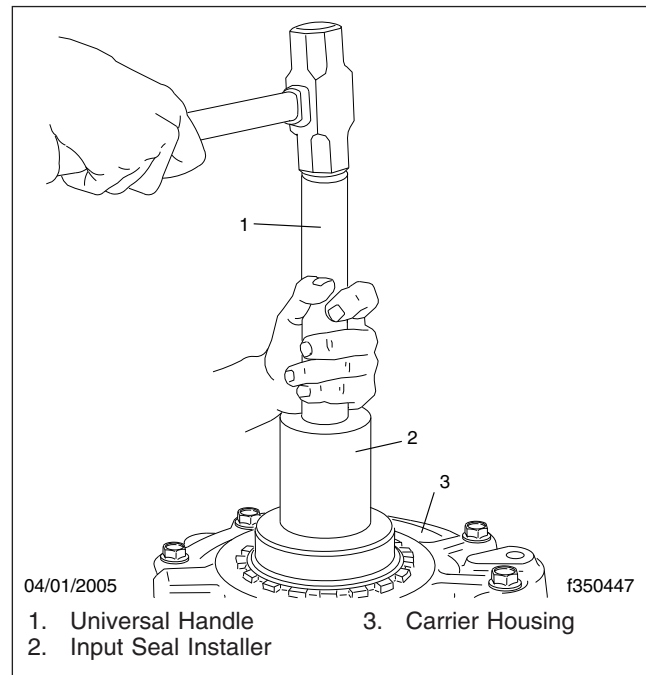

Fig. 2, Installing the Forward Carrier Input Seal
7. Install the seal in the input shaft bore, as follows. See Fig. 2.